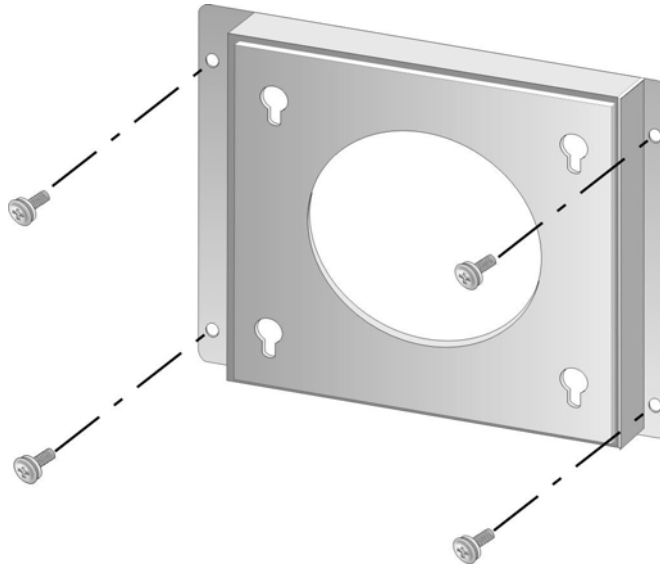

Figure 3-11: Wall-mounting Bracket
- Step 5:** Secure the mounting-bracket to the wall by inserting the retention screws into the four pilot holes and tightening them (see **Figure 3-11**).